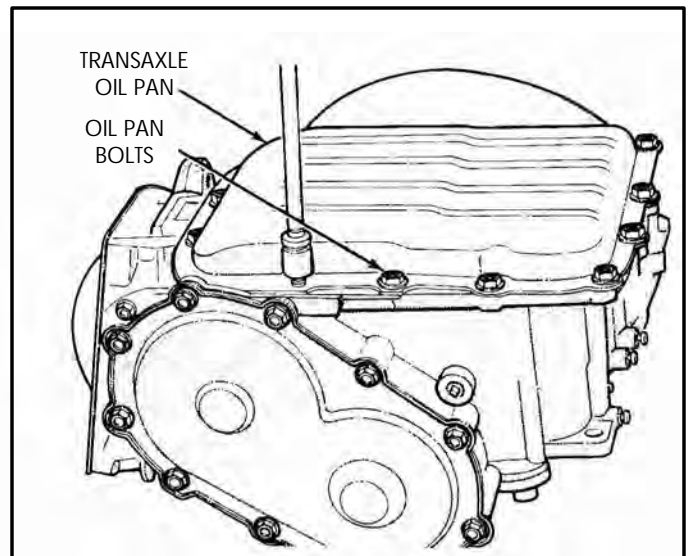

Figure 28
6. Remove 14 transaxle oil pan bolts, as shown in Figure 28.